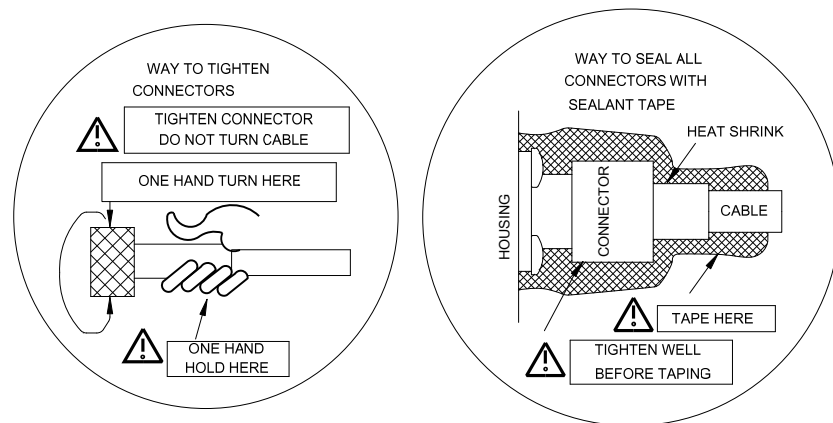

Figure 3.1 Sealing the connectors
- Step 2 The sealing must cover from the housing of the ACU until after the heatshrink sleeve. Refer the Figure 3.1 for the sealing.